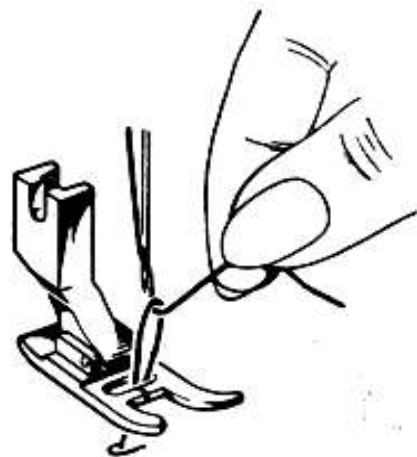

Fig. 17
- Draw the upper thread; the lower thread will be pulled up through the hole of needle plate (Fig. 17).